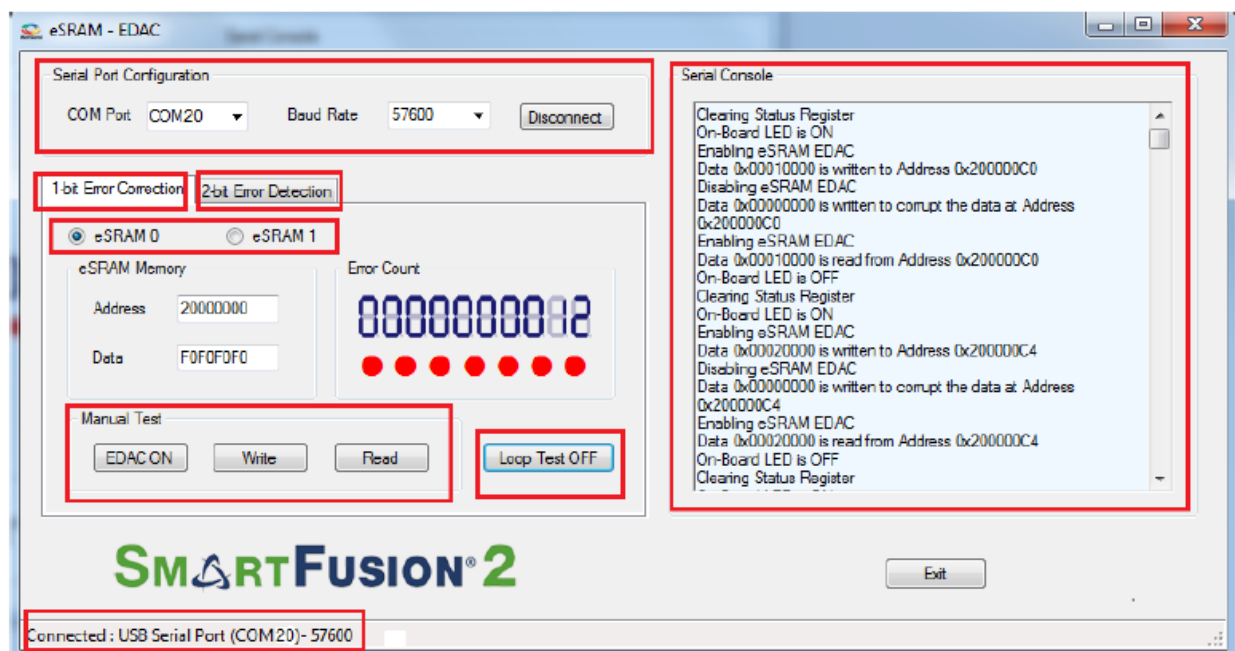

Figure 5. eSRAM – EDAC Demo GUI
4. Launch the EDAC_eSRAM Demo GUI executable file available in the design files (\GUI Executable\EDAC_eSRAM.exe). The GUI window is displayed, as shown in Figure 5.